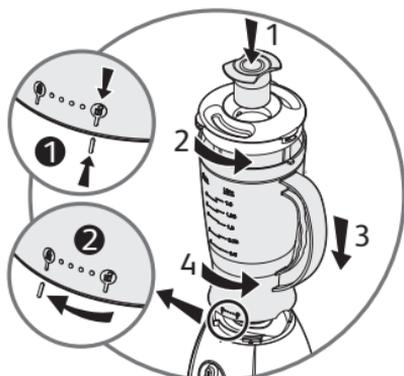

fig.3
- Fit the lid (B) to the mixer jug (C) and lock it by positioning it on the holes opposite the spout (figure 3).
Introduce the measuring cup (A) into the lid and press into place (figure 3). You are advised to hold the lid during operation.
- Place the mixer jug (C) on the body of the motor unit (D). The lock (open)  is aligned in the slot on the motor unit (figure 3).
- Then rotate the mixer jug (C) through a turn the lock (closed)  appears (figure 3).
- Dice all the ingredients before putting them into the mixer jug (C). It is best to start with liquids, without going over the maximum level shown on the jug (1.5L).
- Connect the appliance and start up by turning speed selector (E) to "Pulse," "1," or "2".
- To stop the appliance, bring the speed selector (E) to "0".
- Wait for the appliance back to a complete stop before removing the mixer jug (C).
- Remove the mixer jug (C) by unlocking it in opposite direction to installation.
- This universal mill (F) is equipped with a bowl (f3) that prevents access to the blades during use.
- Rotate the bowl (F) and pour the ingredients.